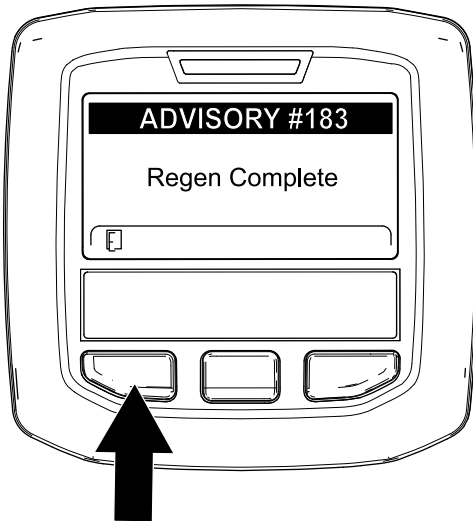

Figure 63
9. When the engine computer completes a parked or recovery regeneration, the InfoCenter displays ADVISORY #183 (Figure 63). Press the left button to exit to the home screen.